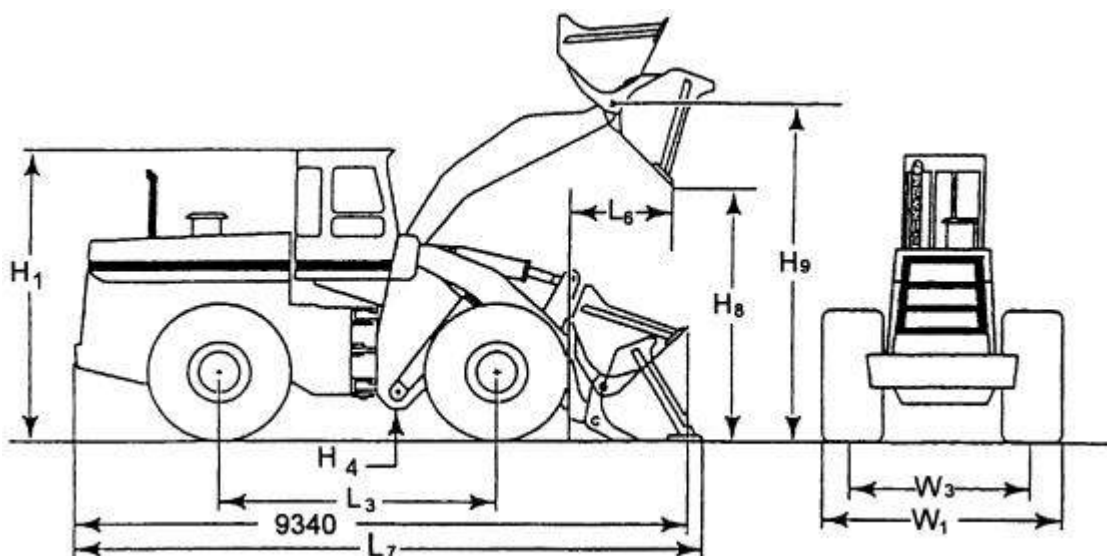

Fig. 6.7. Overall Dimensions – Wheel Loader 560C
**6.8.1. GENERAL SPECIFICATIONS OF THE LOADER (Refer to Fig. 6.7. and 6.8.)**